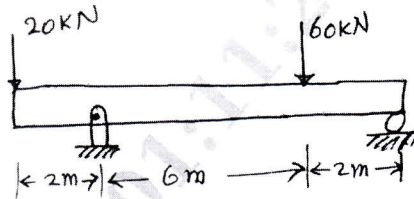

Fig. Q5 (a)
- 5 a. Obtain the equations for shear force and bending moment for any point on the beam. Also draw the shear force and bending moment diagram. Refer Fig. Q5 (a) (15 Marks)